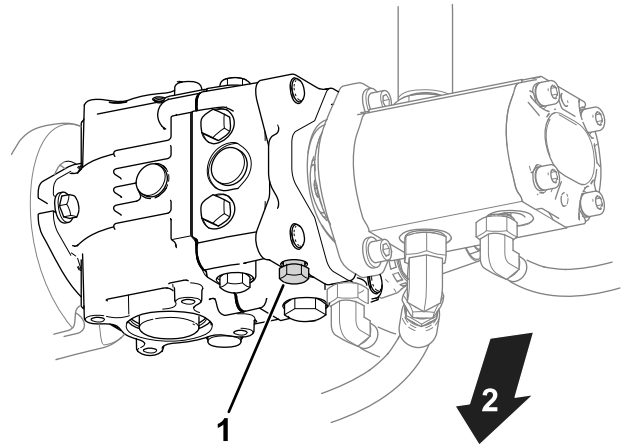

Figure 25
1. Locate the bypass valve on the pump (Figure 25).